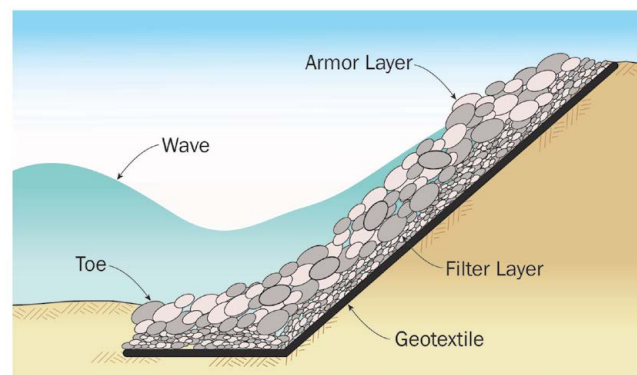

Figure 2.1.3. Typical cross-section of slope protection.
- Riprap: is used extensively on channel and canal slopes (Figure 2.1.3)